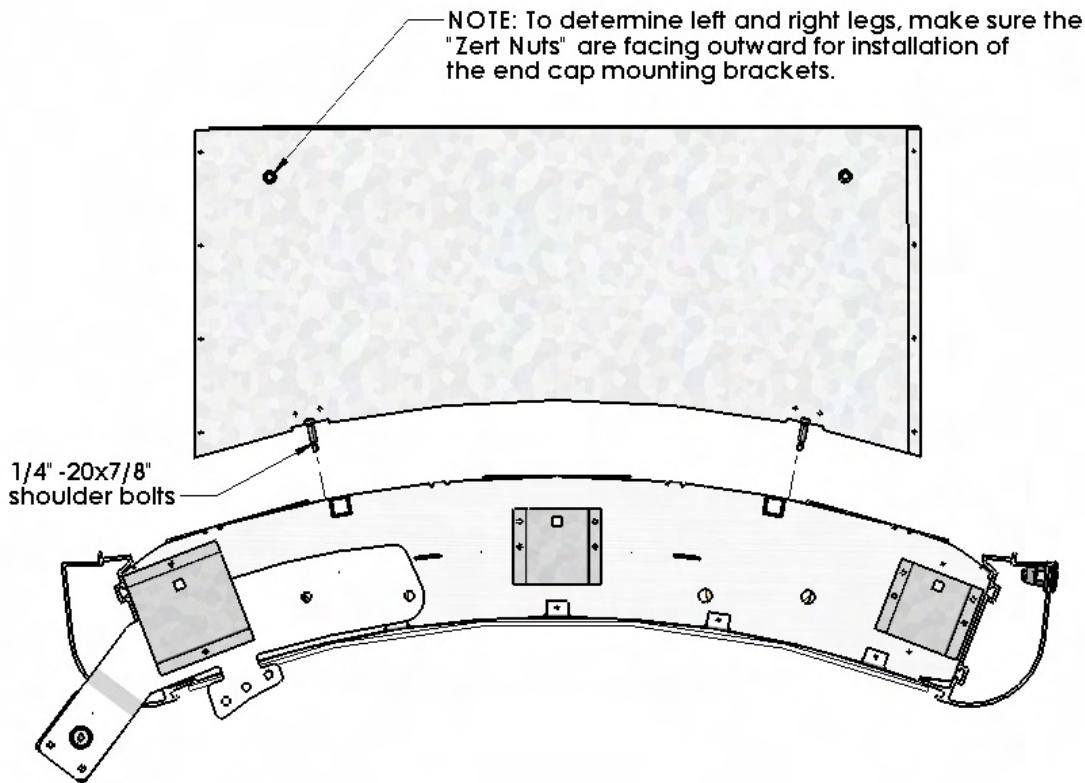

Fig. 1
- Two (2) or more people
STEP 1. Position the bench upside down and determine left and right legs. Using the 1/4"-20x7/8" shoulder bolts and the 1/4" washers (both provided), bolt the legs to the bench with the 7/16" Socket. (Fig.1)